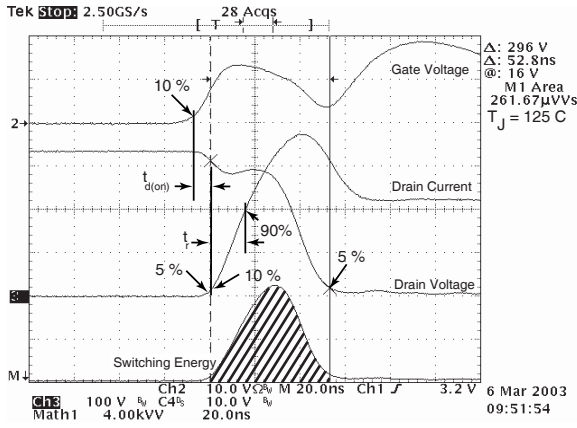

Figure 18, Turn-on Switching Waveforms and Definitions
① Repetitive Rating: Pulse width limited by maximum junction temperature
② Pulse Test: Pulse width < 380  $\mu s$ , Duty Cycle < 2%
③ See MIL-STD-750 Method 3471
④ Starting  $T_j = +25^\circ C$ ,  $L = 3.97mH$ ,  $R_G = 25\Omega$ , Peak  $I_L = 22A$
⑤  $dv/dt$  numbers reflect the limitations of the test circuit rather than the device itself.  $I_S \leq -I_D 22A$   $di/dt \leq 700A/\mu s$   $V_R \leq V_{DSS}$   $T_j \leq 150^\circ C$
⑥  $E_{on}$  includes diode reverse recovery. See figures 18, 20.